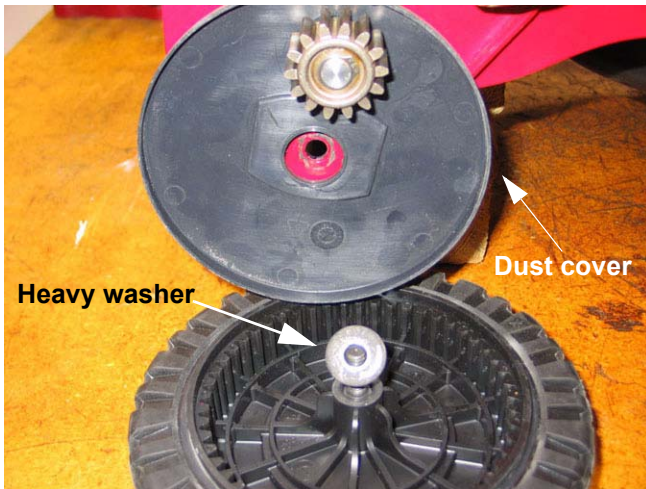

Figure 3.8
- 3.8. Using a 1/2" wrench and a 9/16" wrench remove the shoulder bolts, washers, and rear wheels. See Figure 3.8.